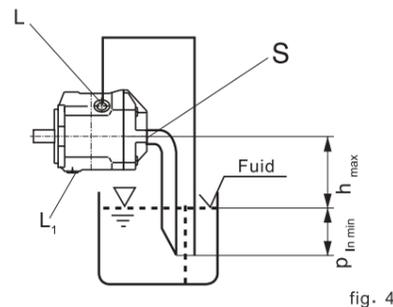

fig. 4
- b) When the minimum fluid level lies under the pump upper edge then: drain port L1, L and possibly port S has to be piped, see fig. 4. Conditions are as per in section 1.2.1.
- a) For installation above a tank see fig. 4.